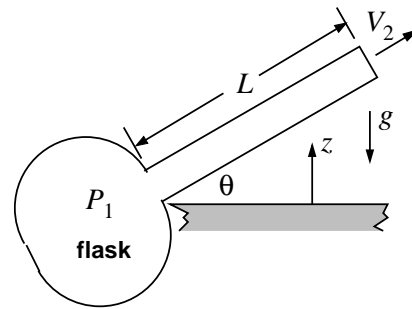

Figure 2: Angled pipe.
2. (10 pts) Fluid of density ρ flows from a large pressurized flask through a pipe of length L that is tilted at an angle θ (Fig. 2). If the flow exits to the atmosphere and if viscous losses in the pipe have the form $CV_2^2/2$ (where C is an empirically-based constant), show that the exit velocity is